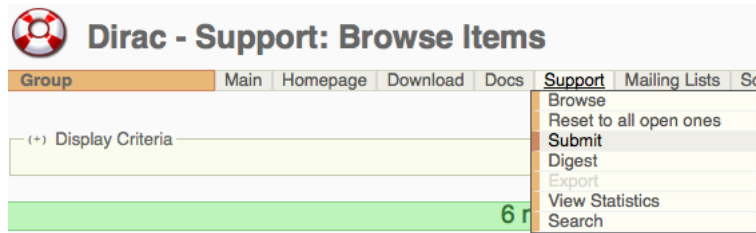

Figure 6: Savannah support submit.
- Navigate to the “Support” tab at the top of the page (Fig. 6) and click on “submit”.